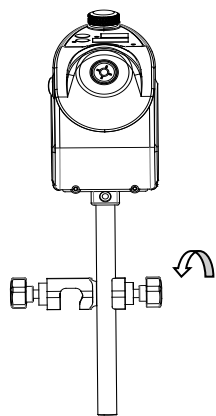

Figure 5
5. Put the bar in the right groove of the active block, use the knob to adjust it. (refer to figure 5).